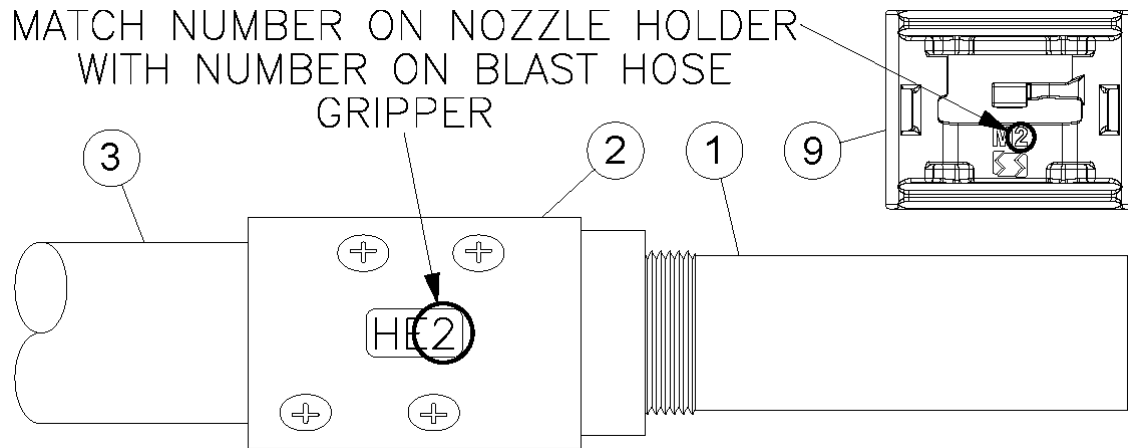

Figure 4.2
- 4.2 Select Blast Hose Gripper (#9) based on hose size and wall thickness (See Figure 4.1). The grippers are marked M1 – M4 on the inside of the gripper. See M2 marked on the drawing in Figure 4.2. Most manufacturers cast their part numbers on the side of the nozzle holder (#2). The letters of the part number vary between manufacturers and nozzle holder material, but the last number usually indicates the blast hose size. Match the last number of the nozzle holder part number with the number on the Blast Hose Gripper (#9) (See Figure 4.2).